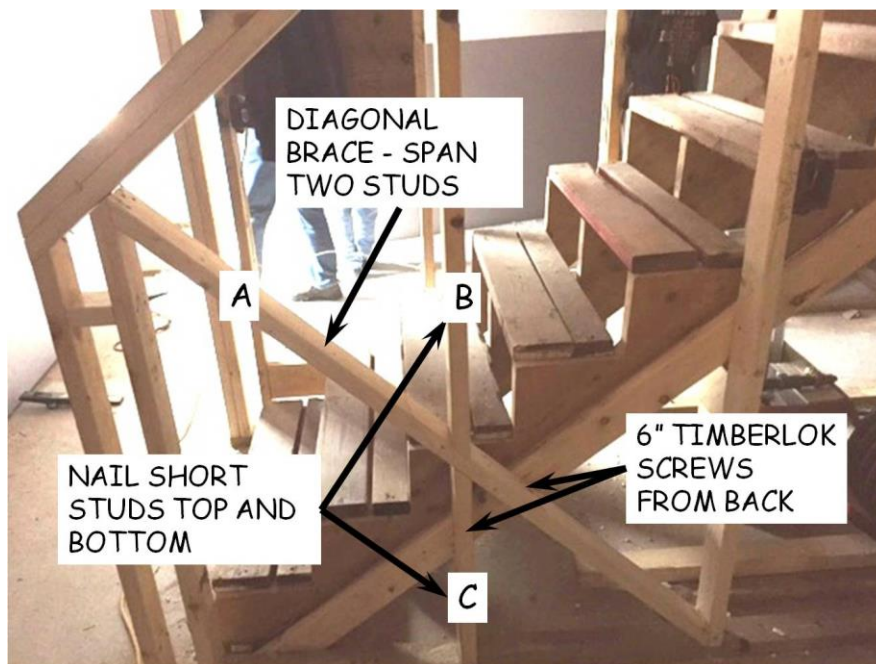

Figure 6-7. Stairway Wall Bracing.
- To stiffen the wall, cut and nail an angled 2x4 brace between the bottom of the uncut stud and the top of the next cut stud, through the space where the stud was removed earlier (see "A" in Figure 6-7 below).
10. Measure and cut, at the same angle, two 2x4s to fit above and below the angled brace as shown in Figure 6-7, “B” and “C”, respectively. Toenail the lower (“C”) to the bottom plate and through the diagonal brace into the top. Nail the upper (“B”) through the upper plate into the top end and then through the diagonal brace into the lower end. Use two 3¼” collated nails at each location.
12. Finally, drive a timber screw through the stringer/OSB/2x4 sandwich into the diagonal brace, and another into the lower Short Stud (“C”) as indicated in Figure 6-7.